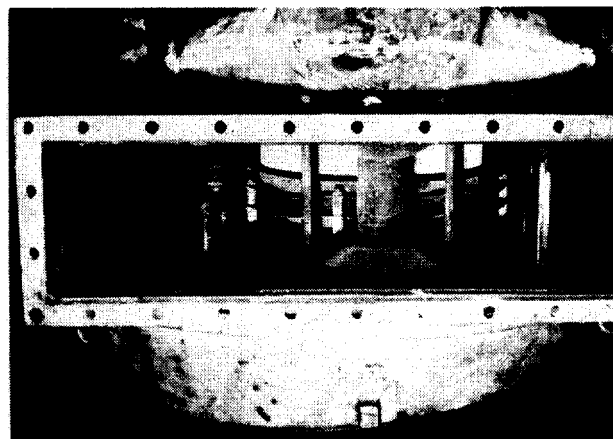

Fig.9-View Down the Exhaust Stack-Warped Diffuser
2. Viewing down the exhaust duct; the exhaust diffuser may be warped and the shroud may be bulged. Both may be torn by broken blades, Figs. 9 and 10.